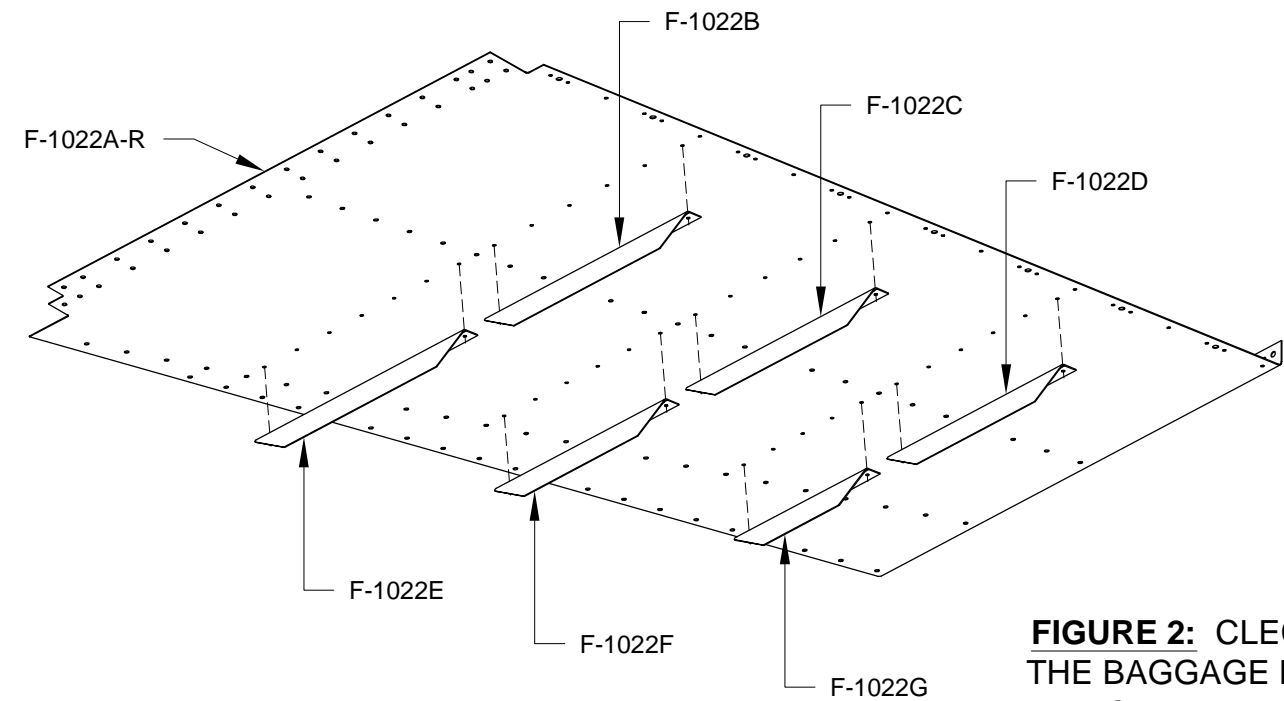

FIGURE 2: CLECOING THE BAGGAGE FLOOR STIFFENERS
Step 3: As shown in Figure 2, cleco the F-1022 Baggage Floor Stiffeners to the bottom of the F-1022A-L and -R Baggage Floors (only the right baggage floor is shown in the figure), then final-drill #40 the holes common to the parts.